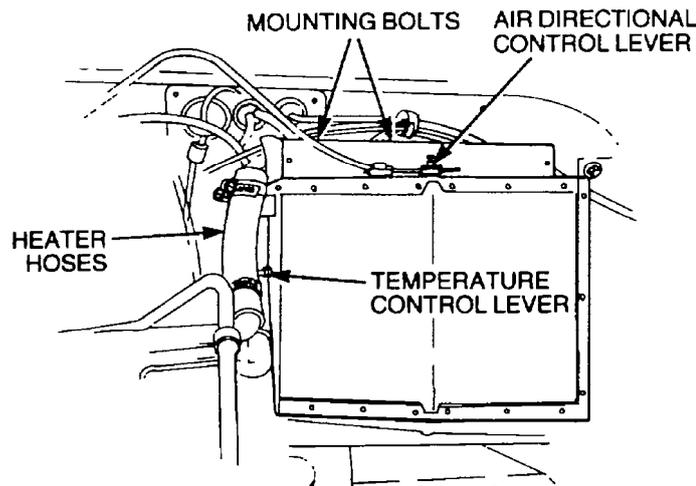

Figure 108 Heater Assembly Removal
- c. Disconnect the securing clip and cable from the air directional control lever (Figure 108).